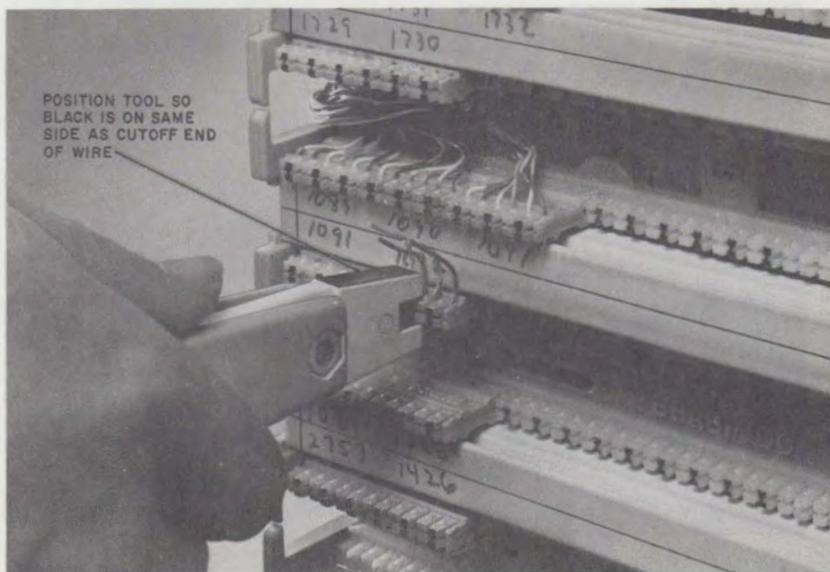

Fig. 24—Terminating Cross-Connect Wire
3.20 ♦Using the 788D3 tool with the head properly positioned (black side up), seat and cut off the excess wire as shown in Fig. 24. With the white side up, the tool will seat the wire only. The D impact tool can also be used for this operation (using the proper blade), *but the 788C1 or 788J1 should not be used.*